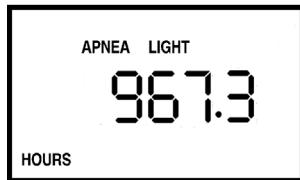

Figure 6-4 Standby Screen
d. The next screen that appears is the Standby screen, shown in Figure 6-4. This indicates that the device is in the Standby state.